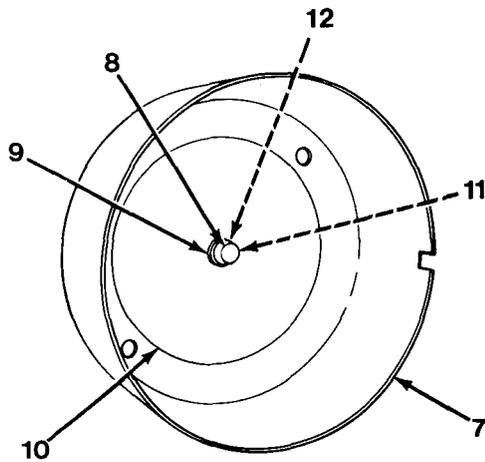

Figure 10-2
6. Remove cap nut (8), nylon washer (9), nylon plate (10), capscrew (11) and washer (12) from cover (7, Figure 10-2).